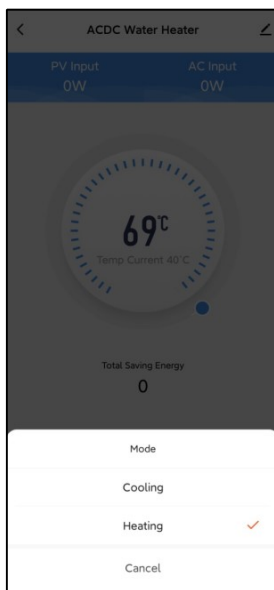

Fig.19 Mode selecting interface
- You can switch the unit among heating, cooling under mode selecting interface. (Fig.19).